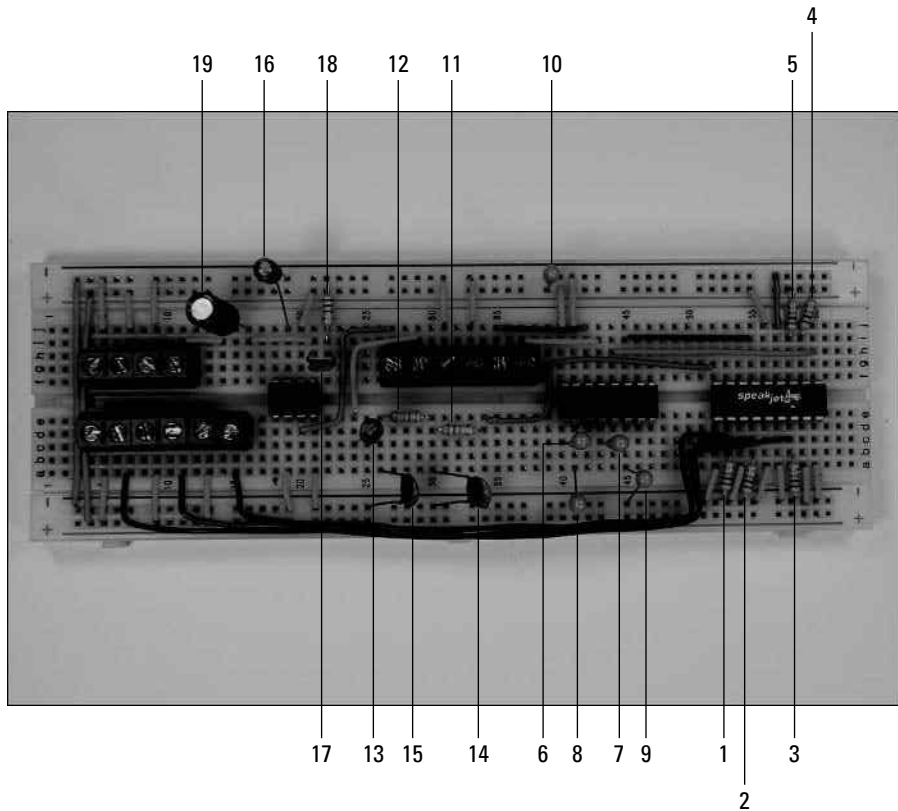

Figure 7-9:
5. **Insert discrete components on the breadboard, as shown in Figure 7-9.**